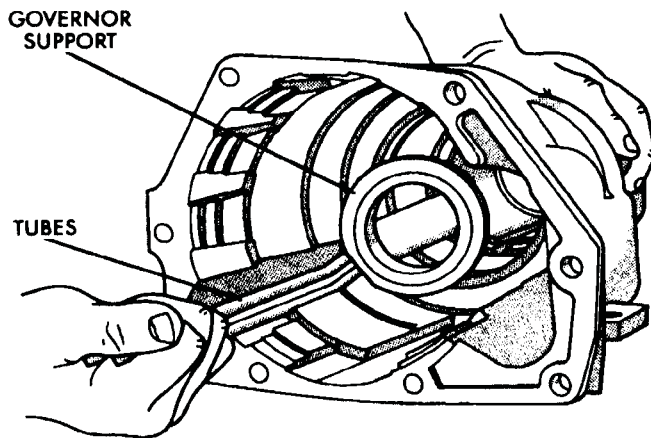

Fig. 72 Governor Support And Pressure Tube Installation
(16) Install governor support and pressure tubes in case (Fig. 72).